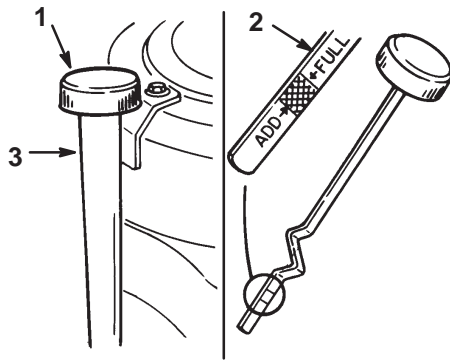

Figure 23
2. Clean around the oil dipstick (Fig. 23) so dirt cannot fall into the filler hole and damage the engine.
3. Unscrew the oil dipstick and wipe the metal end clean (Fig. 23).
4. Thread the oil dipstick fully onto the filler tube (Fig. 23). Pull the dipstick out and look at the metal end. If oil level is low, slowly pour only enough oil into the filler tube to raise the level to the full mark.
5. Slowly pour approximately 80% of the specified oil, page 27, into the filler tube (Fig. 23). Now check the oil level; refer to Checking Oil Level, page 27. Slowly add additional oil to bring to full mark on dipstick.